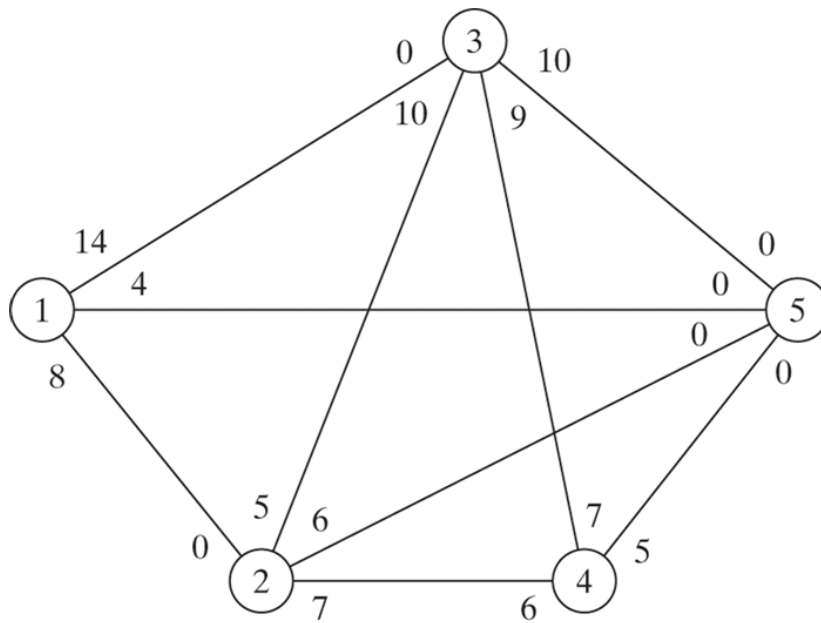

Figure 6.32 Network for Problem 2.
- 2) Determine the maximal flow and the optimum flow in each arc for the network in Figure 6.32.